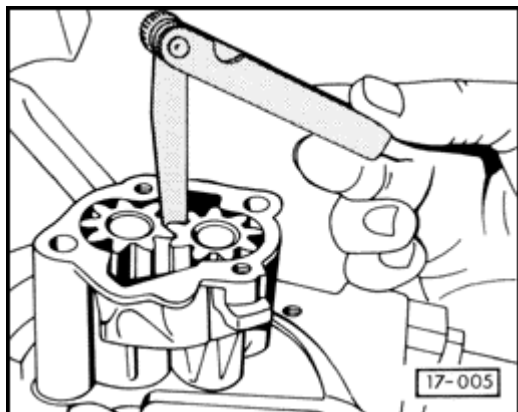

Fig. 1 Oil pump backlash, checking
- ◆ backlash checking, ⇒ Fig. 1